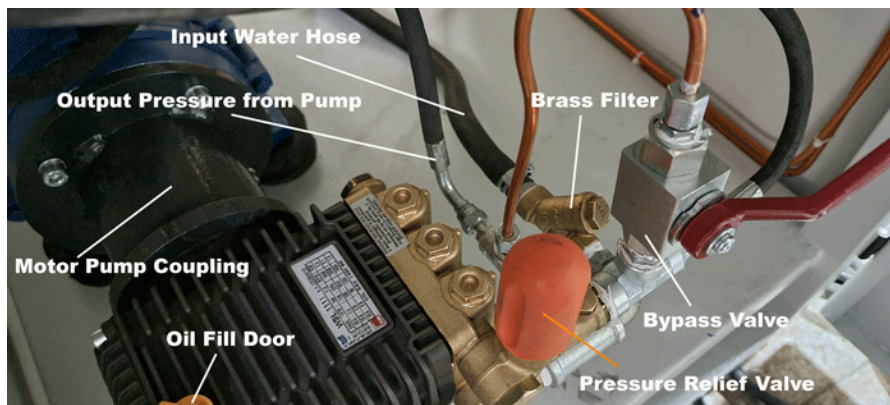

Fig1- Pump assembly
- 4- If motor is running when you start a line first of all check water inlet to the pump (Fig1)
- 5- Check if brass filter is OK, open the cap of brass filter and check if it is clean (Fig1)
- 6- Check the bypass valve if it is half open (Fig1)
- 7- Check the pressure relief valve is set (Turn right for pressure increase and left for pressure decrease) (Fig1)
- 8- Check if water is coming out from pump outlet hose (Fig1)